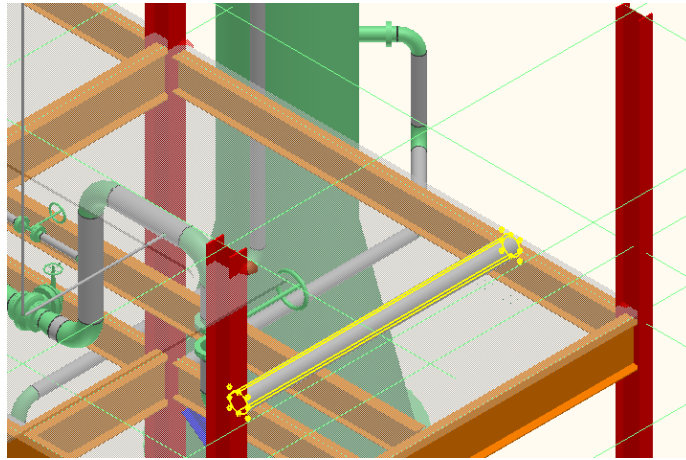

Figure 4: Select Pipe Straight Feature
- In the select feature smartstep, select the pipe straight feature in pipeline **300-W** that will be supported in an isometric view looking South-East, as shown in Figure 4.